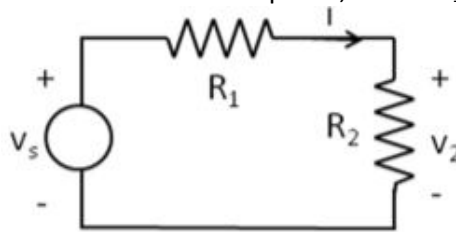

Figure 6. Circuit design
- Current can be measured directly by placing an ammeter in series in the circuit. Current can also be determined by using Ohm's Law on the voltage measured across a known resistor, as will be done in this part. Build the circuit shown in Figure 6 below. Use a breadboard as well as the resistors used in part 3, where $R_1 = 2k\Omega$ and $R_2 = 1k\Omega$.